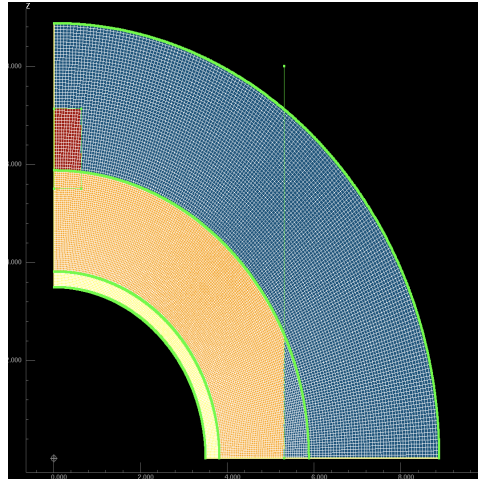

figure 14.
3. 'paint' air onto the HE to represent the removed HE (results shown in figure 14)
To understand how painting works, take a look at the booster in figure 14 (in dark red). The outline of the booster region is the green surrounding line (extending into the main HE, which will be discussed more later). Paint works by turning any of the underlying mesh inside of the booster region to “booster material”. Similarly, looking at the HE cutout on the sides, paint looks at the HE material lying inside the cutout region and turns it into air. Note that material boundaries are not perfect. There is some raggedness to them as they follow the underlying mesh zones. However, paint can insert complex shapes into conformal meshes with relative ease.